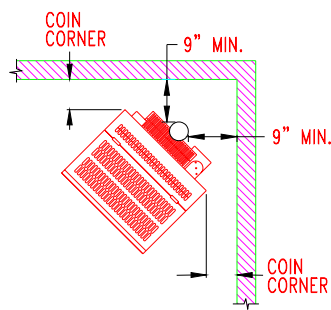

Figure 1 : CORNER INSTALLATION
- Many configurations are possible, the most frequent are illustrated in figures 1, 2 and 3.